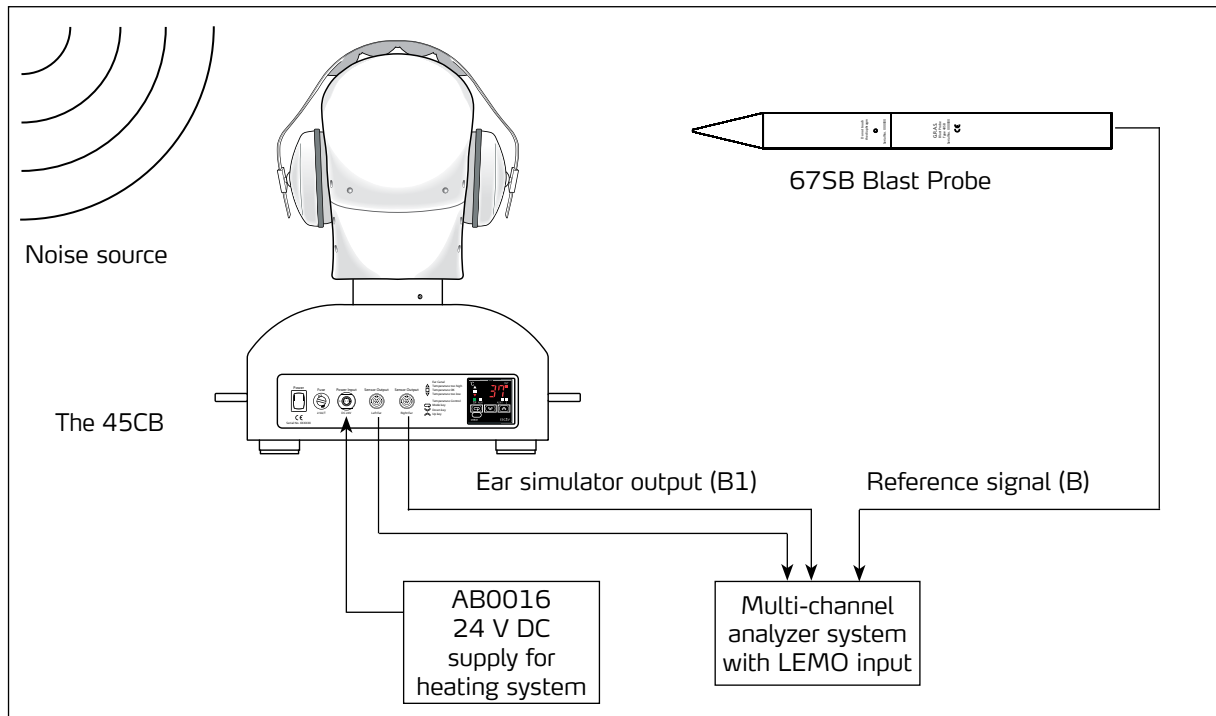

Fig. 12. Block diagram of a typical setup for the 45CB with the blast probe 67SB providing the reference signal for an earmuff test on the 45CB.
- The impulse for the measurements is generated by a blast tube or an explosive device. (This is indicated by “noise source” in Fig. 12).